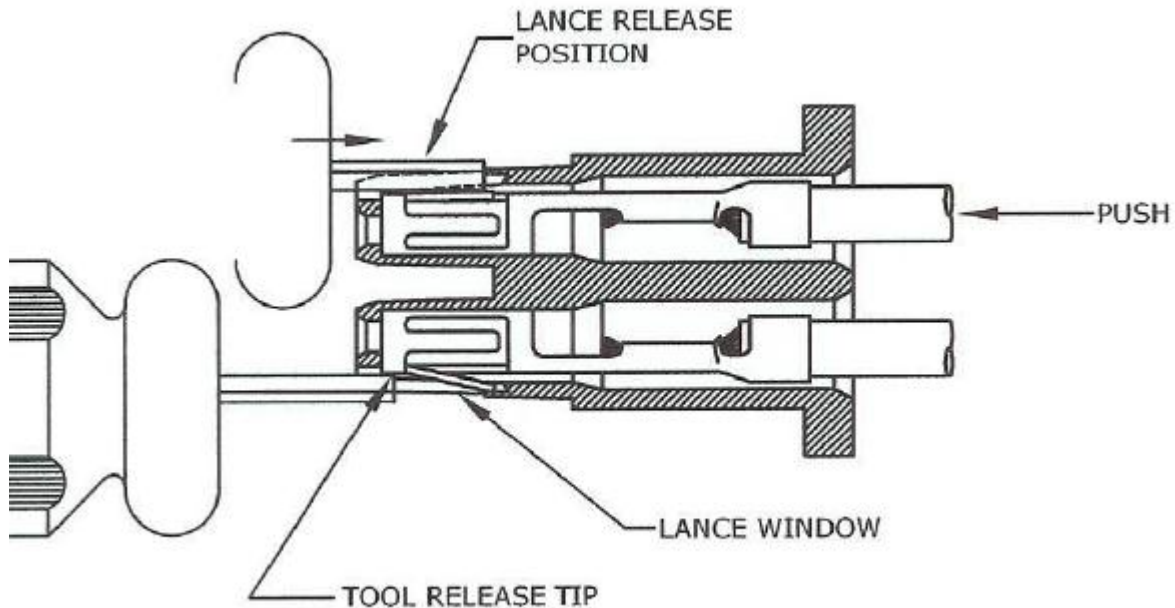

FIGURE 2
The CC79 Mini Mate[®] contact has a retaining lance that can be released through an access window located on the outside of the housing as shown in **Figure 2**. The Extraction tool has a tip that is inserted into the window to depress the lance the correct amount for contact removal.
2. Engage the tip of the Extraction Tool in the lance window as shown in **Figure 2**. With downward pressure, push the tool toward the back of the window to release the lance.